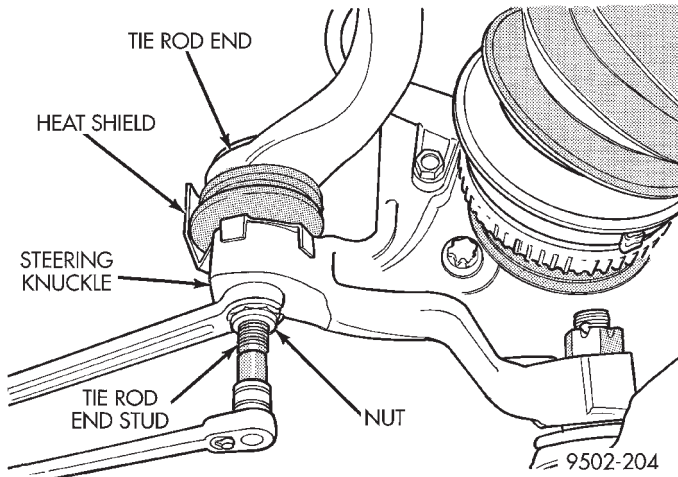
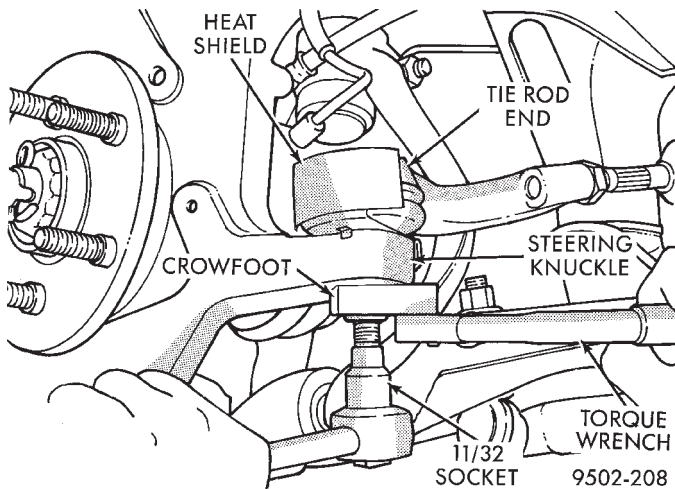

Fig. 44 Tie Rod End Attaching Nut
Fig. 52 Torquing Tie Rod End Attaching Nut
(8) Remove the braking disc from the front hub/bearing assembly.
(9) Remove nut attaching outer tie rod end to the steering knuckle (Fig. 44). **Nut is to be removed from tie rod end using the following procedure, hold tie rod end stud with a 11/32 socket while loosening and removing nut with wrench (Fig. 44).**
CAUTION: When installing tie rod on steering knuckle the heat shield (Fig. 52) must be installed. If heat shield is not installed, tie rod seal boot can fail due to excessive heat from brake rotor.
(7) Install tie rod end into the steering knuckle. Start tie rod end to steering knuckle attaching nut onto stud of tie rod end. While holding stud of tie rod end stationary, tighten tie rod end to steering knuckle attaching nut (Fig. 44). Then using a crow-foot and 11/32 socket tighten the attaching nut to a torque of 61 N-m (45 ft. lbs.) (Fig. 52).